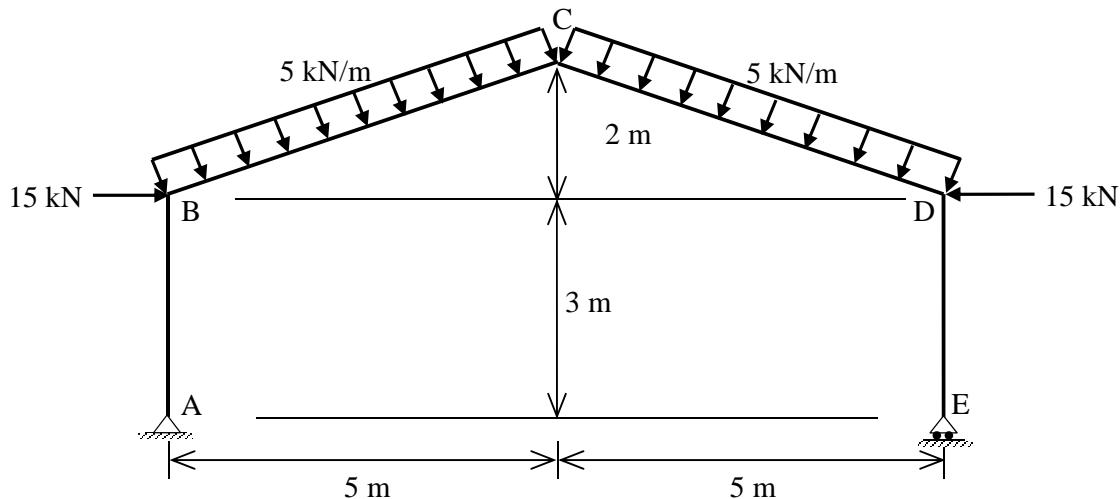

Figure 6(a) / Rajah 6(a)
6. [a] **Figure 6(a)** shows a portal frame that carries uniformly distributed load of 5 kN/m along span BC and CD with pin and roller supports at A and E, respectively. The load is perpendicular to the spans. Two horizontal concentrated loads of 15 kN are acting at joints B and D. Use the virtual work method to determine the vertical deflection at joint C of the frame shown in **Figure 6(a)**. Take $E = 200 \text{ GPa}$ and $I = 600 \times 10^6 \text{ mm}^4$.
- [b] The section of the steel beam for a frame is shown in **Figure 6(b)**. Determine the plastic moment capacity, elastic moment capacity and shape factor of the beam section. The yield stress of steel is 275 N/mm².